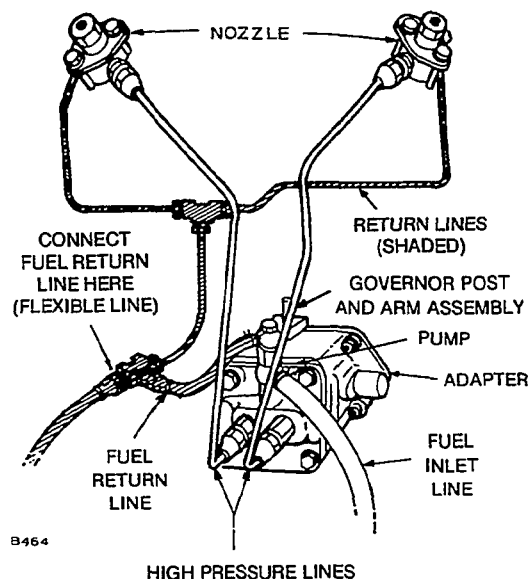

FIGURE 57. FUEL LINES TO INJECTORS
The Bryce or Kiki fuel injection system (Figure 57) is located near the center on the left side of the engine crankcase on MDJE engines. The pump is mounted on an adapter casting. Two lobes of the cam shaft operate the pump plungers, one plunger and cam lobe for each cylinder. The fuel is pumped at high pressure by the plungers through the delivery valves to the injection nozzles.
2. Remove fuel inlet and return line, Figure 57.